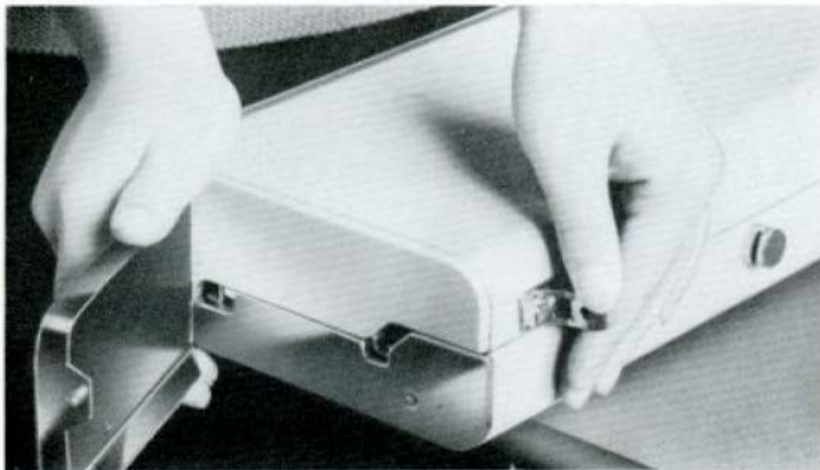

Fig. 3
- b. Release the catches on the side covers, and open the side covers as far as they will go. (See Fig.3)